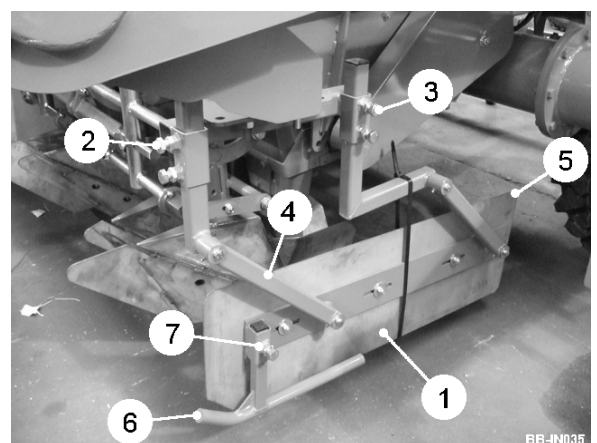

Fig 4
The soil retention panels (item 1, figure 4) prevent soil from flowing into the wheelings from the openers. Vertical adjustment is provided to allow the panels to be raised/lowered to match wheel height. To adjust the height loosen the front leg retaining screws (item 2, figure 4) and raise/lower the leg to the required position.
Loosen the rear leg retaining screws (item 3, figure 4) and adjust the leg height so that the panel runs parallel with the ground. The angle at which the pivot arms (item 4, figure 4) operate should be approximately  $30^\circ$  from horizontal allowing the panels to ride the contours of the ground. The depth chains (item 5, figure 4) should be adjusted to allow the panels to float when in work but prevent them from dropping too low when the planter is lifted out of work. The skids (item 6, figure 4) are fitted to assist the soil retention panels in riding over the ground. The skid should be set slightly below the bottom edge of the panel. To adjust loosen the retaining bolts (item 7, figure 4).